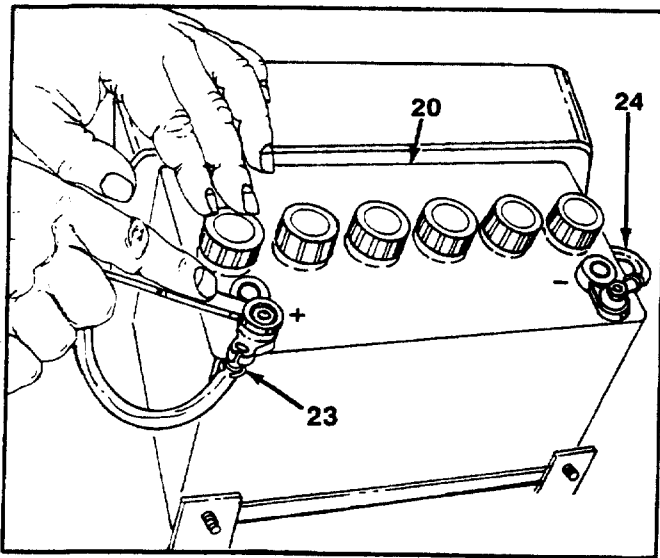

FIGURE 13.
15. Remove the positive and negative battery cables at battery terminals. See figure 13.